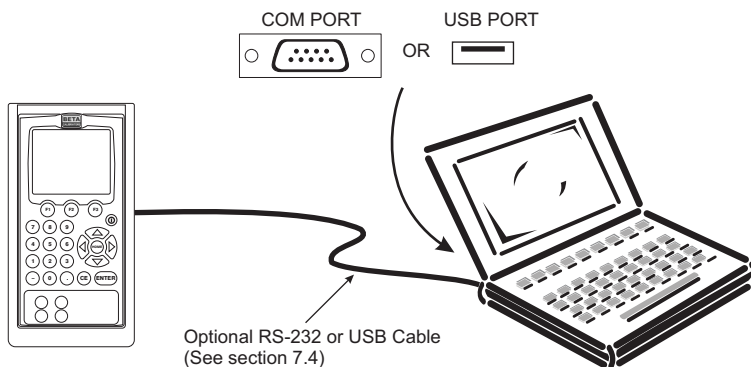

Figure 12. Calibrator-to-Computer Connection
3. Connect the leads to the frequency output terminals as shown in Figure 12.
The calibrator can be remotely controlled using a PC terminal, or by a computer program running the calibrator in an automated system. It uses an RS-232 serial port connection for remote operation. With this connection the user can write programs on the PC, with Windows languages like Visual Basic to operate the calibrator, or use a Windows terminal, such as Hyper Terminal, to enter single commands. Typical RS-232 remote configurations are shown in Figure 12.